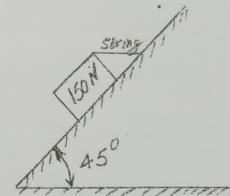

Fig 3(b)
- Q4. A) What do you understand by truss? How the trusses are classified? (8)
b) Find the forces in the given members of truss shown in fig. 3. (17)
- A rectangular prism weighing 150 N is lying on an inclined plane whose inclination with the horizontal is shown in fig 3 (b). The block is tied by a horizontal string which has a tension of 50 N. Using first principles, find (i) the frictional force on the block (ii) the normal reaction at the inclined plane (iii) the co-efficient of friction between the surfaces of contact. (9)
- Q8 Draw the shear force diagram and bending moment diagram for the beam loaded as shown in Fig 3. (12.5)